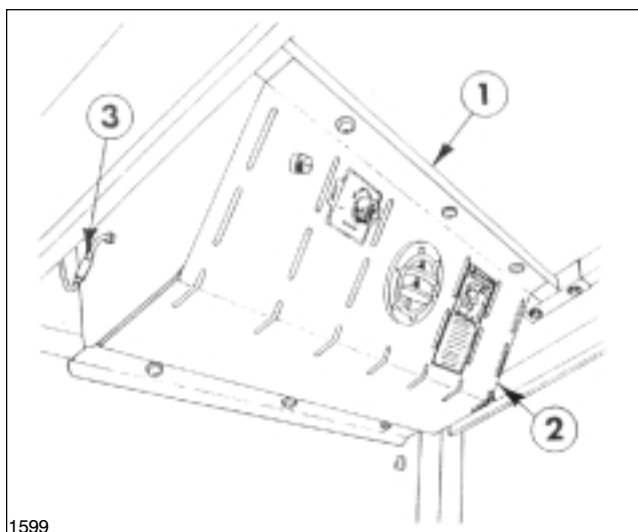

FIG. 4
14. Secure the Enclosure Cover to the ROPS by screwing (4) 3/8" x 3/4" flange hd. bolts through the Enclosure Cover into the ROPS Bar. Do not tighten fasteners.
15. Secure the two Door Channels to the inside of the Enclosure Cover using (4) 3/8" x 3/4" flange hd. bolts, lockwashers, and hex nuts removed in step 12. Tighten fasteners securely.
16. Loosely mount the ROPS Cross Bar (furnished with the ROPS Bars by screwing (4) 3/8" x 1" hex hd. cap screws, flatwashers, and lockwashers into the ROPS Bars. Slide the Cross Bar towards the rear to make clearance for the Blower installation. Do not tighten fasteners. See FIG. 4.